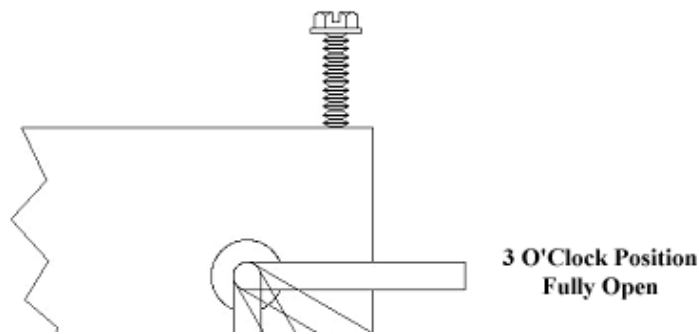

Figure 16
**If you experience problems adjusting the Furnace during the Break-In Period, contact your dealer.** The figure below may be used to gage the approximate damper setting when making an adjustment. Some chimney systems will fall outside the norm, for example, a chimney with excessive draft or one with a long horizontal run. In dealing with technical support, the terminology listed in figure 16 may be used to clarify where your damper needs to be set.